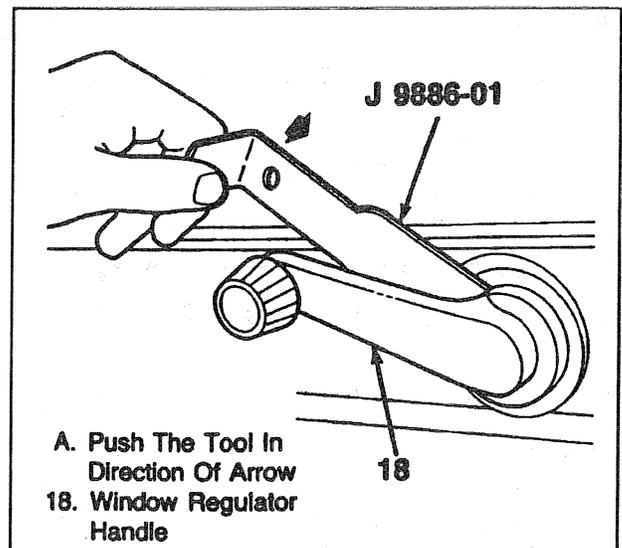

Figure 36—Typical Window Regulator Handle Retaining Clip Removal
#### ↔ Remove or Disconnect (Figures 36 and 37)
- A. Insert J 9886-01 between the handle and bearing plate (figures 36 and 37).
- B. Align the tool and push to disengage the clip (figure 36).
#### ↔ Install or Connect (Figures 36 and 37)
2. Window regulator handle (figures 36 and 37).